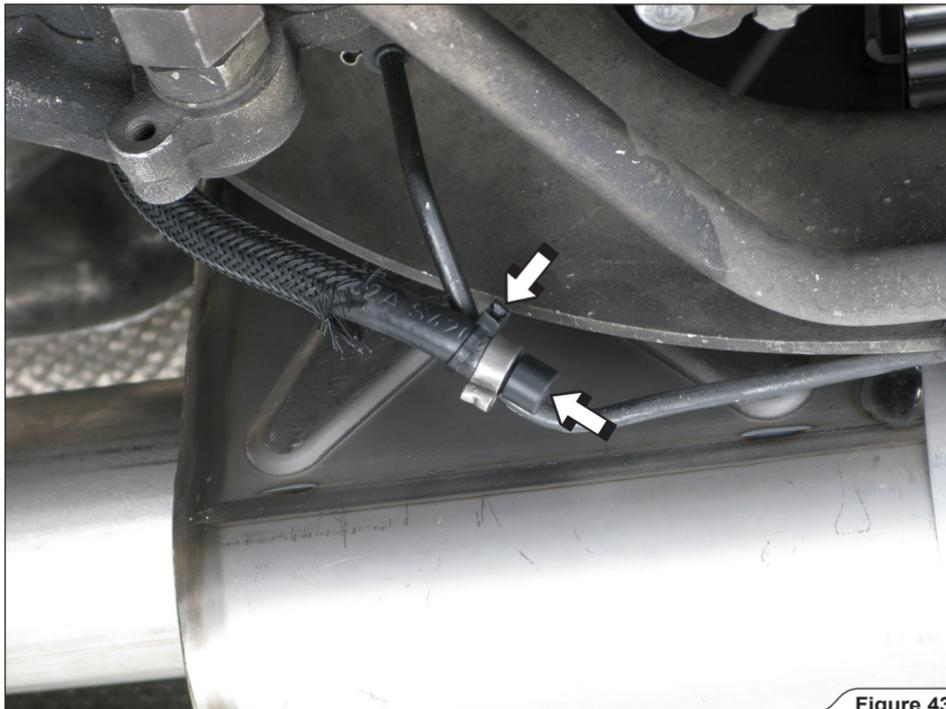

Figure 43
24. **For Sports Cup and Evolution-Race:** Install the plastic plugs (supplied in the Akrapovič installation kit) into the vacuum cylinder tubes (both tubes!) and secure the plugs with plastic ties; cut away excess tie (**Figure 43**).